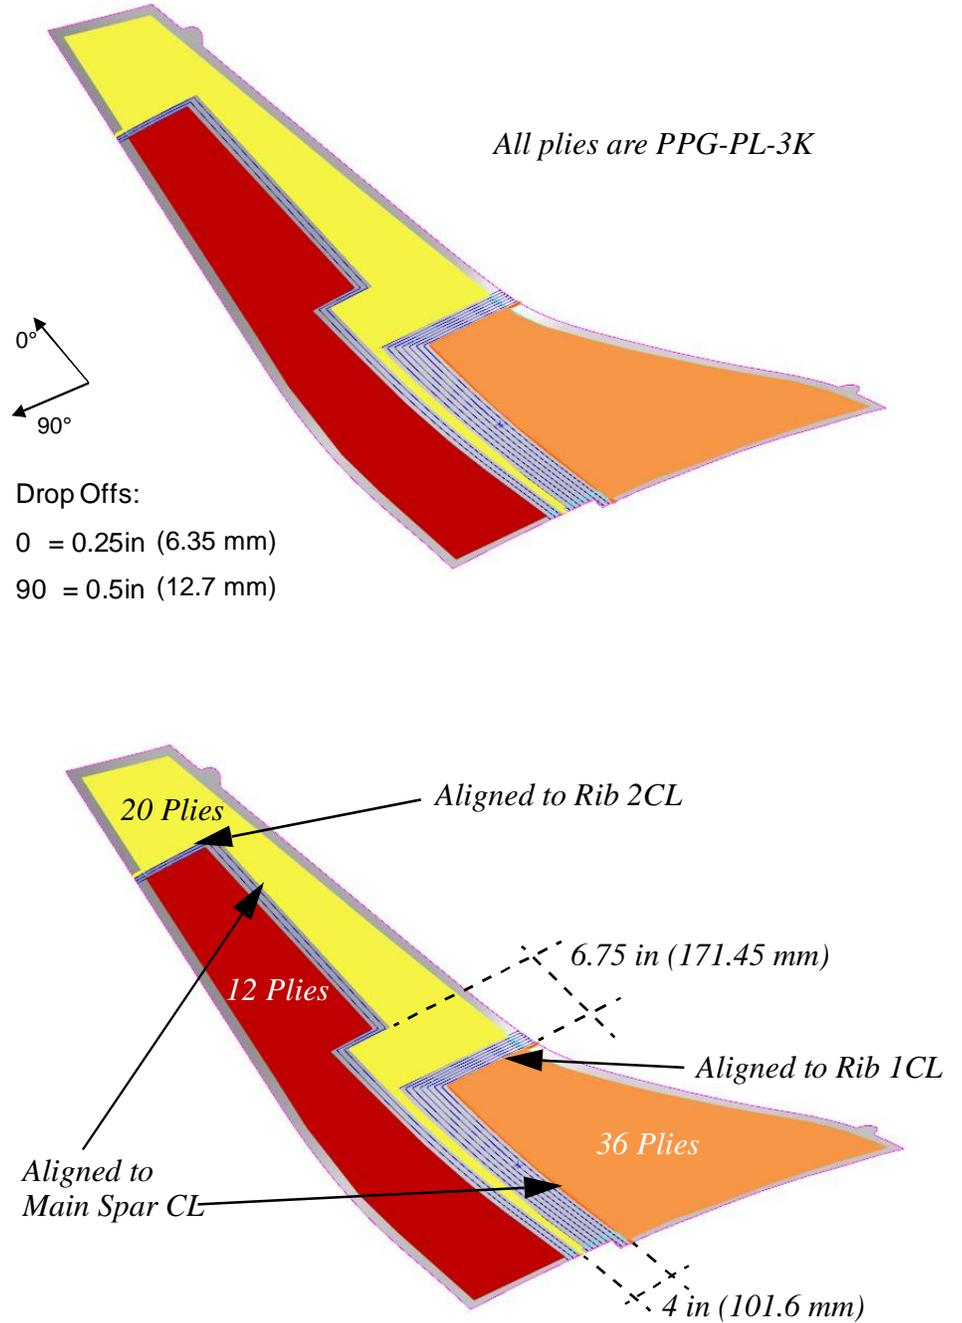

Figure P2-5
1. Create the required CAD geometry for the given plies as shown in Figure P2-5.